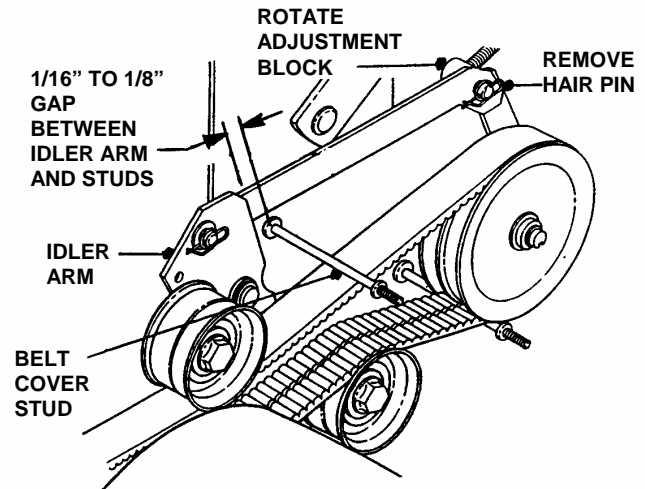

FIGURE 5.2
4. Remove the hairpins from the traction rod adjustment blocks and remove the adjustment blocks from the traction links on each side of the mower. See Figure 5.2.
5. Rotate the adjustment block as required to make the idler arms almost touch against the belt cover studs when the Traction Levers are locked. There should be about 1/16" to 1/8" gap between the idler arms and studs. See Figure 5.2.